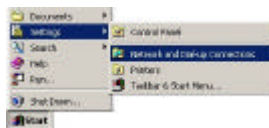

Figure 1
1. Click the **Start** button and select **Settings** → **Network and Dial-up Connections**. (Figure 1)